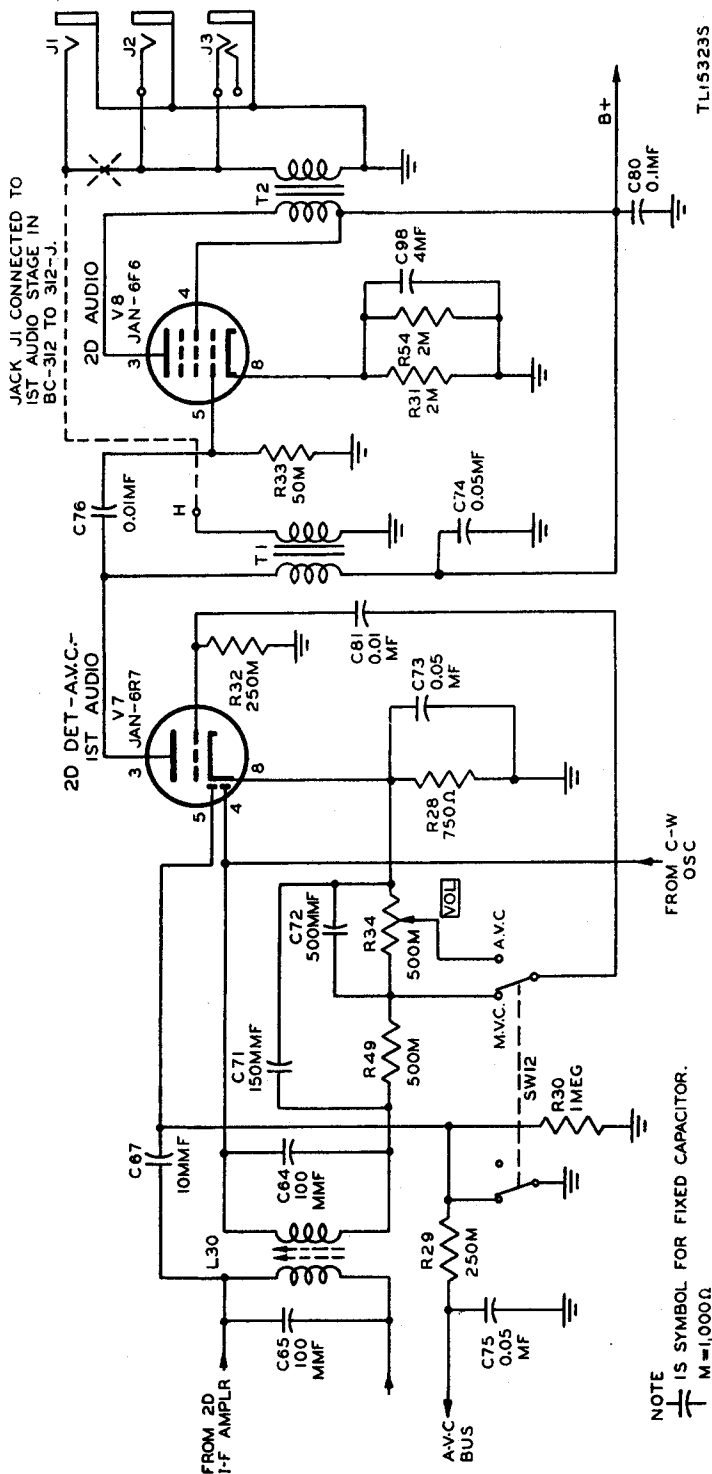

Figure 29. Detector, a-v-c, and audio amplifier stages, h-f models.
a. RADIO RECEIVERS BC-312-(*) AND BC-342-(*). (1) A duo-diode triode Tube JAN-6R7 is used as the second detector-a-v-c.-first audio amplifier tube. (See fig. 29.) One diode section functions as the second detector while the other diode section is used to provide the a-v.c. voltage. The triode section of the tube serves as the first audio amplifier tube.
(2) The amplified i-f signal developed across the resonant cir-
a. RADIO RECEIVERS BC-312-(*) AND BC-342-(*) (1) The second audio amplifier stage uses a Tube JAN-6F6 pentode power amplifier. The output of the first audio amplifier is coupled to the grid of the second audio amplifier tube through capacitor C76. (See fig. 29.) Resistor R33 is the grid return resistor and cathode bias for the tube is developed across parallel resistors R31 and R54 bypassed to ground by capacitor C98. Screen voltage is obtained direct from the B+ supply. The primary winding of output transformer T2 forms the plate load for tube V8 and the amplified audio signal is coupled through the secondary winding to the headset and speaker jacks J1, J2, and J3. Two taps are provided on the secondary winding of transformer T2 to provide an output of 4,000 ohms or 250 ohms, depending on the input impedance of the phones or headset to be used.